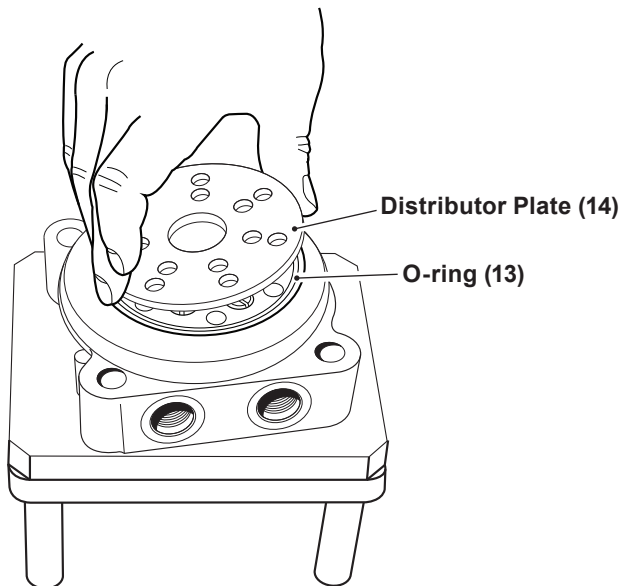

Figure 11, Distributor Plate
1. Remove castellated nut (1), woodruff key (6), plastic plugs (8), retaining ring (2), seven screws (22), seven washers (23), end cover (19), the gearwheel set (17) with O-rings (16, 18), and cardan shaft (15). See pages 4 - 7.
2. Remove the distributor plate (14).
3. Remove and discard the O-ring (13). See figure 11.